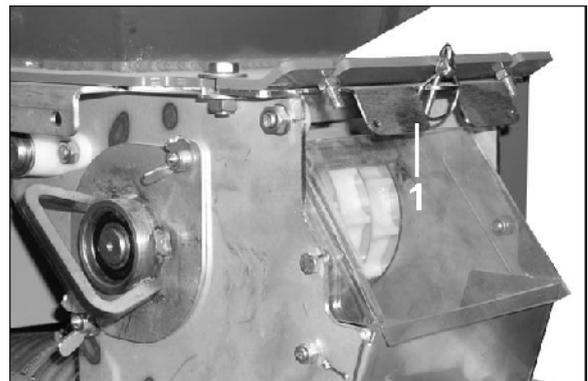

Fig. 120
2. Close the slide (Fig. 120/1), if only the dosing unit and not the hopper is to be emptied (see on page 107).